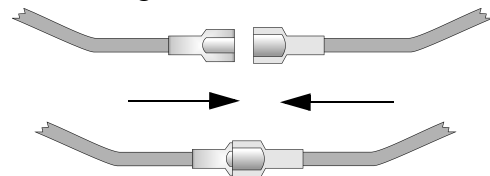

Figure 2: Splicing Control panel Battery Cables
2. Connect the main control panel battery cables to the battery cable extenders as shown in Figure 2.